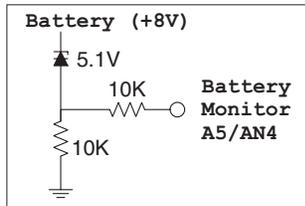

FIGURE 8. Battery Monitor
- Pin 3 (port A5) is connected to the battery monitor (Figure 8). Using the regulated +5V as a reference, the PIC Analog to Digital (A/D) converters can measure voltages from 0 to 5V. Since the electronics will stop working at about 6V, and the max battery voltage peaks at less than 9V, we need to scale the voltage range. By using a 5.1V zener diode, we are able to drop the measured battery voltage range from 9V-6V down to 4V-1V, nicely within the range of the PIC A/D.